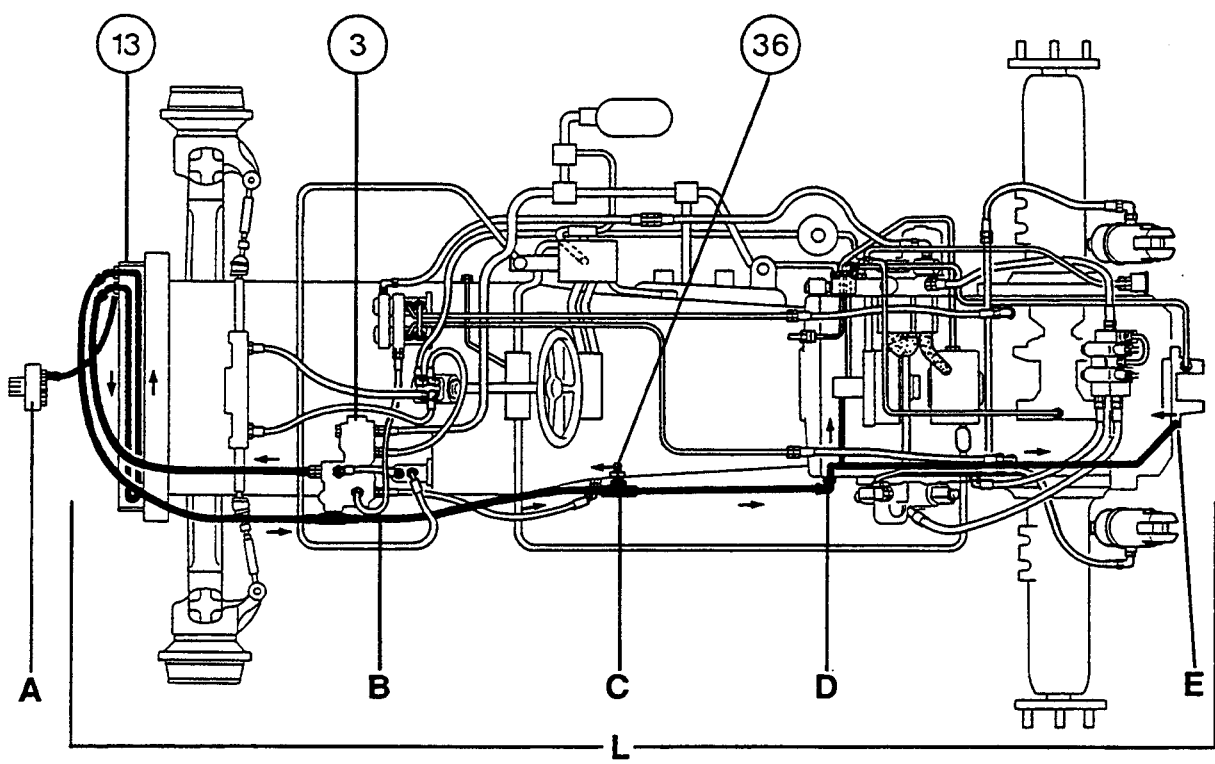

Fig. 2
**Legend (Fig. 2/3)****(3)** 17 bar distribution valve**(13)** Oil cooler**(36)** 1.5 bar valve**A** Front PTO lubrication (if fitted)**B** Lubrication hose coming from the 17 bar distribution valve**C** Lubrication of front cover PTO shaft and gearbox**D** Lubrication of PTO clutch**E** Lubrication of driving pinion of PTO and coupler as well as compound pinion (4-speed version)**L** Lubrication line